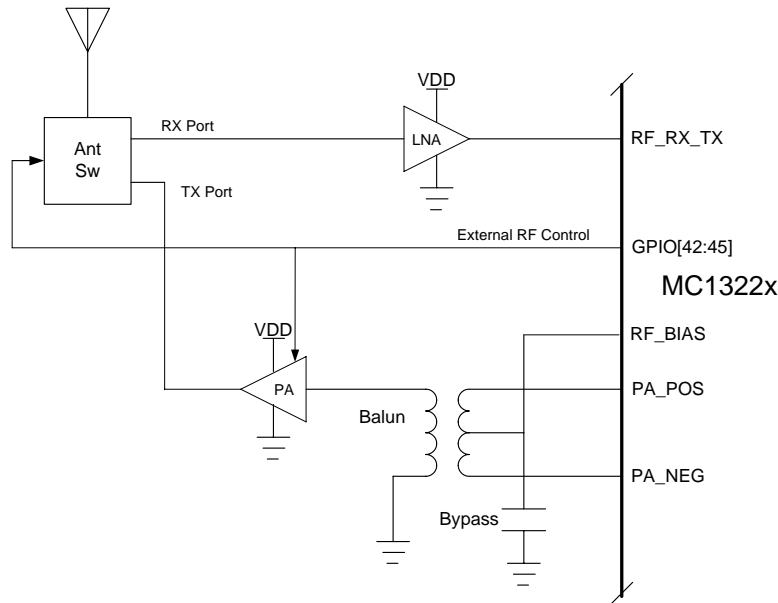

Figure 3-15. Typical MC1322x Dual Port RF Configuration using Secondary PA Outputs
- PA_POS and PA_NEG - a separate set of differential PA outputs are provided for a secondary TX path. The differential PA outputs are typically used with an external PA for increased output power after they are converted to a single-ended signal through a balun(see Figure 3-15).